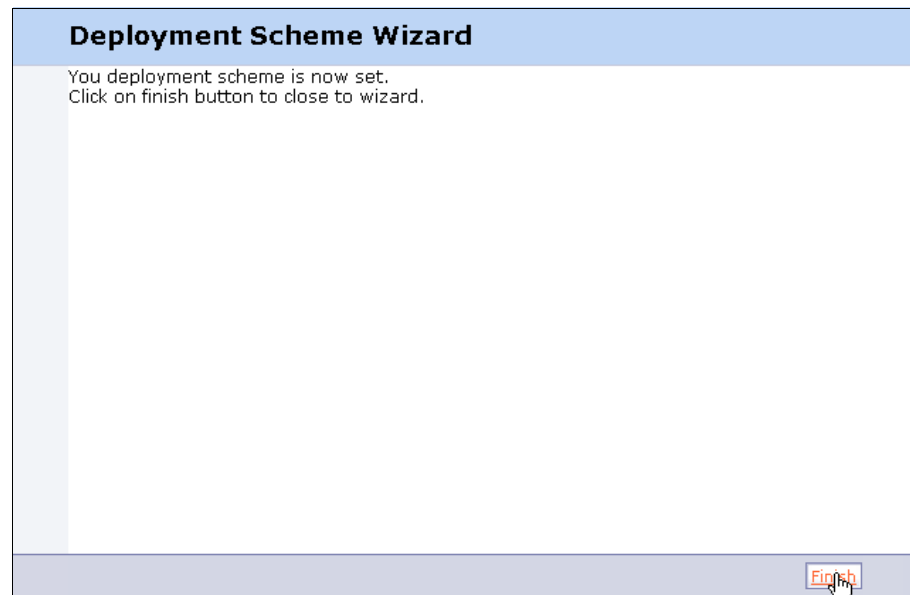

Figure 2-44 Finish the deployment scheme wizard
8. Finally, select the finish button as shown in Figure 2-44 on page 47 to complete the creation of the deployment scheme.